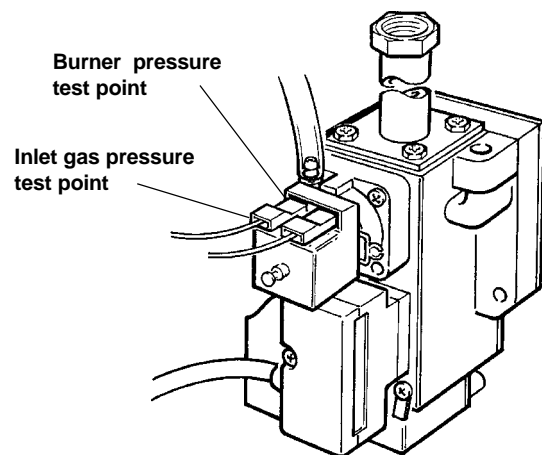

Fig. 19
2. Loosen the gas inlet pressure test point screw on the gas valve (see Fig. 19). Ensure the gas supply is on and open the boiler service cock to purge in accordance with BS 6891.
## 5.5 CHECK THE BURNER PRESSURES - Fig. 19